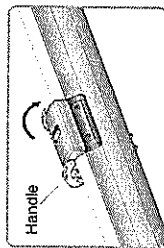

Figure 4
2. Pull up the handle as the arrow indicates below (Figure 4 - 5).